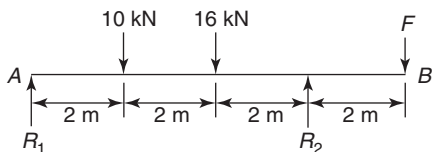

Figure 5.19
4. A simply supported beam AB is loaded as shown in Figure 5.19. Determine the load F in order that the reaction at A is zero. [36 kN]